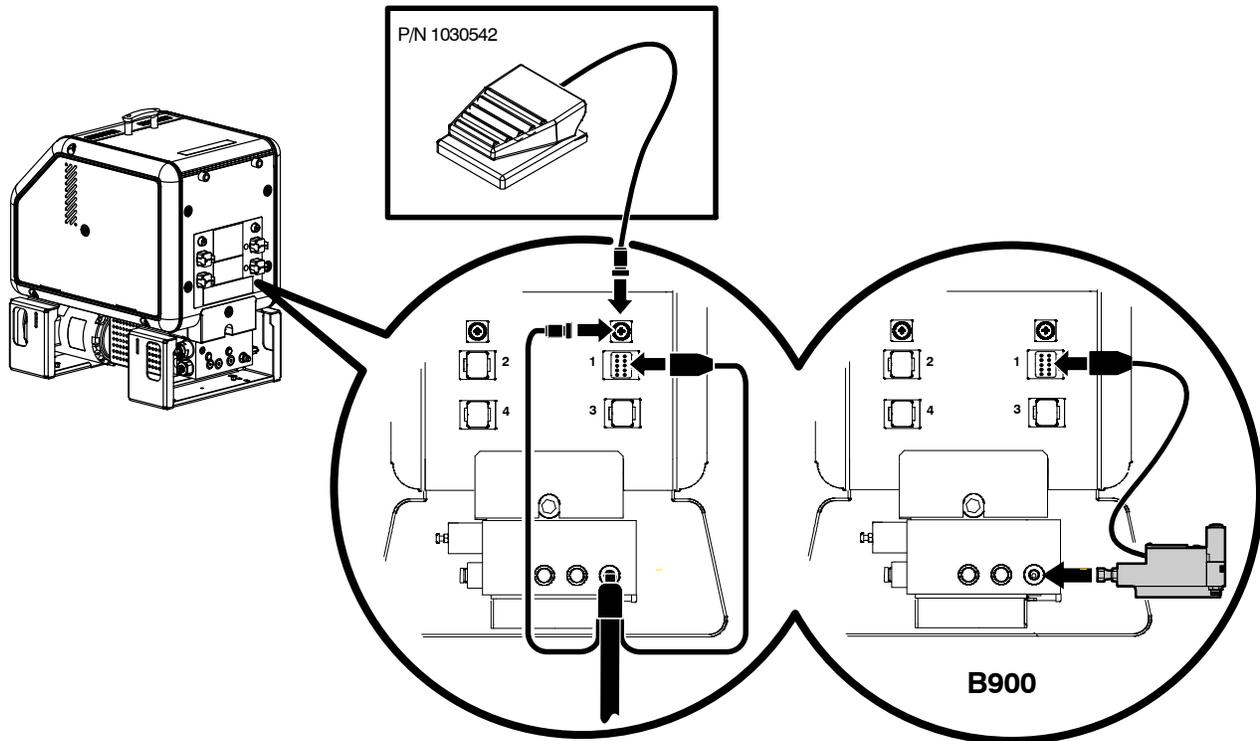

Figure 3-8 Connecting a switched hand-held applicator hose, footswitch, or a B900N electric applicator
See Figure 3-8.
- See Figure 3-8. The B900N electric applicator can be connected directly to the manifold. Operating parameter 12 or 13 must be enabled if a B900N is connected. Refer to Appendix B, *Operating Parameters*.